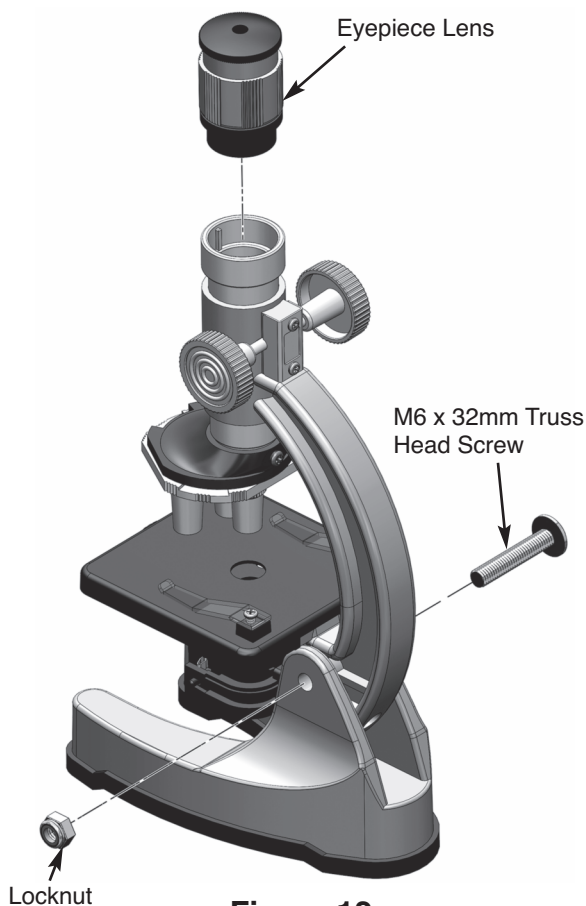

Figure 12
- ❑ Mount the arm assembly onto the base, as shown in Figure 12, and secure into place with the M6 x 32mm screw and locknut. Do not overtighten the locknut.